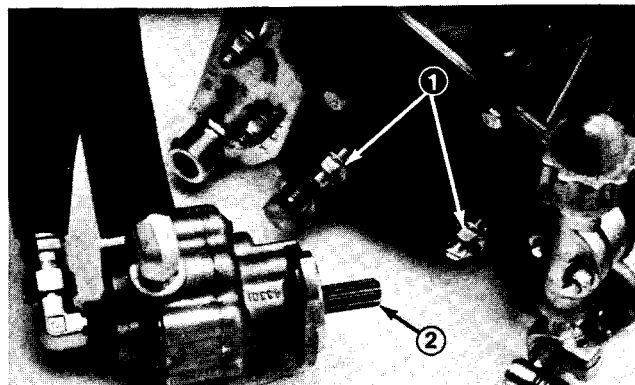

Figure 19
2. Loosen reel motor mounting nuts (Fig. 19). Rotate the motor clockwise so motor flanges clear studs and pull motor off of cutting unit.